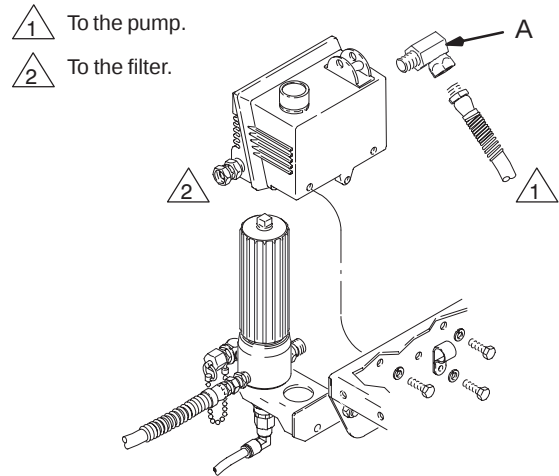

Fig. 19
2. Disconnect hose at the pressure control while holding the fitting (A) firmly. See the **CAUTION**, below. Note the original location of each hose to be sure you reassemble them correctly at the end of this procedure. See Fig. 19.